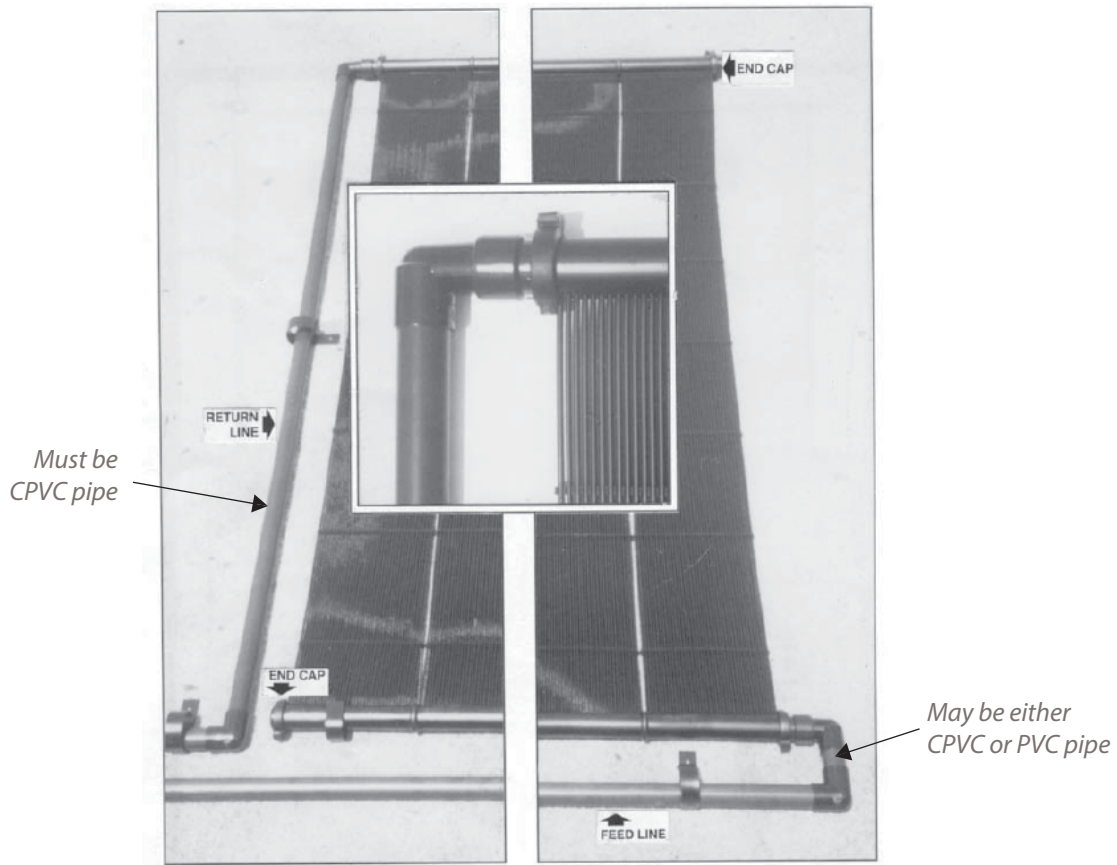

Fig. 12.1
1. Cement the appropriate size CPVC 90-degree elbow to the return line stub facing down toward the bottom header. Repeat the process for the feed line header stub and face the elbow down away from the array. (see Fig. 12.1, page 24).